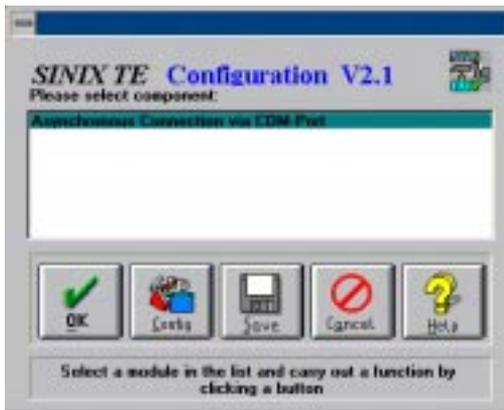

Figure 52: Window: SINIX TE configuration Manager
- ▶ The window as shown in figure 52 on page 176 then appears again. Click on *Save* and then *OK*.